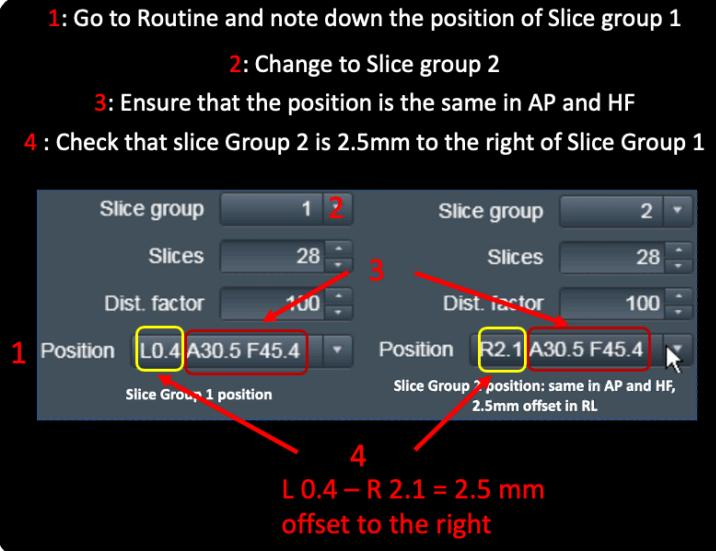

Figure 4. Positioning of the two slice groups for turboFLASH scans.
- **Make sure that you position BOTH slice groups.** The two slice groups should have the same Position information in the anterior-posterior and head-foot directions, with slice group 2 being offset by the slice thickness, 2.5mm (see example in Figure 4).